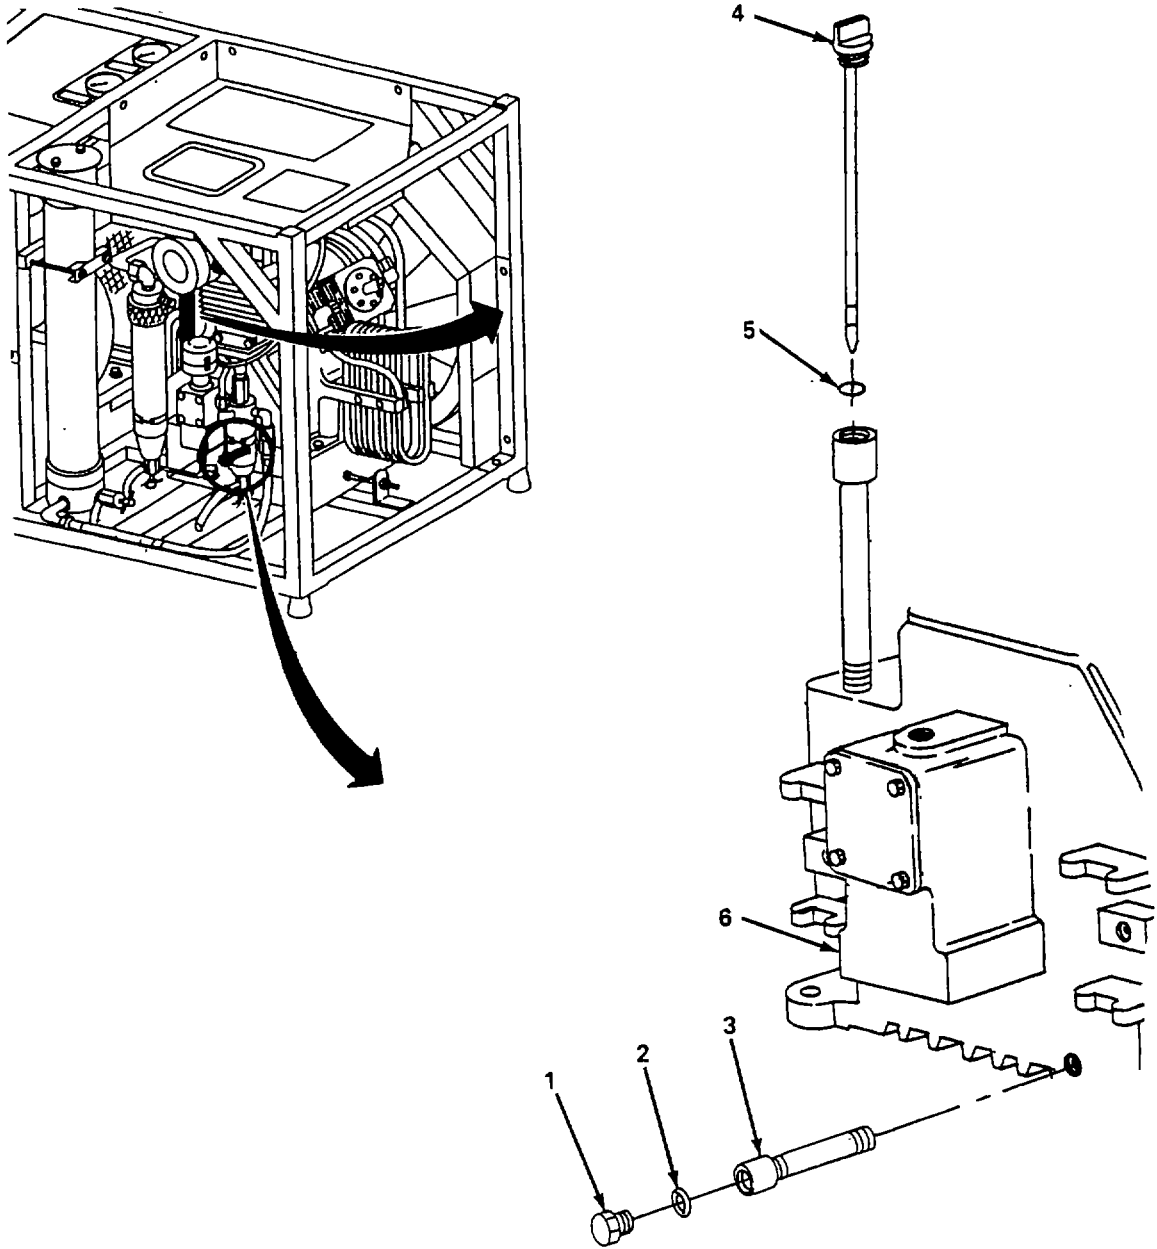

Figure 4-12. Drain Tube, Replace.
**Replace.** (figure 4-12)
- (1) Remove drain plug (1) and gasket (2) and drain oil into suitable container.
- (2) Ensure mating area between drain tube (3) and crankcase (4) is clean and all dirt and debris is removed.
- (3) Remove drain tube (3).
- (4) Install drain tube (3).
- (5) Install drain plug (1) and gasket (2).
- (6) Remove oil filler cap (4) and preformed packing (5).
- (7) Fill compressor (6) with oil until oil level reaches full mark on dipstick. Refer to table 3-1 for proper grade viscosity of compressor oil.
- (8) Install oil filler cap (4) and preformed packing (5).